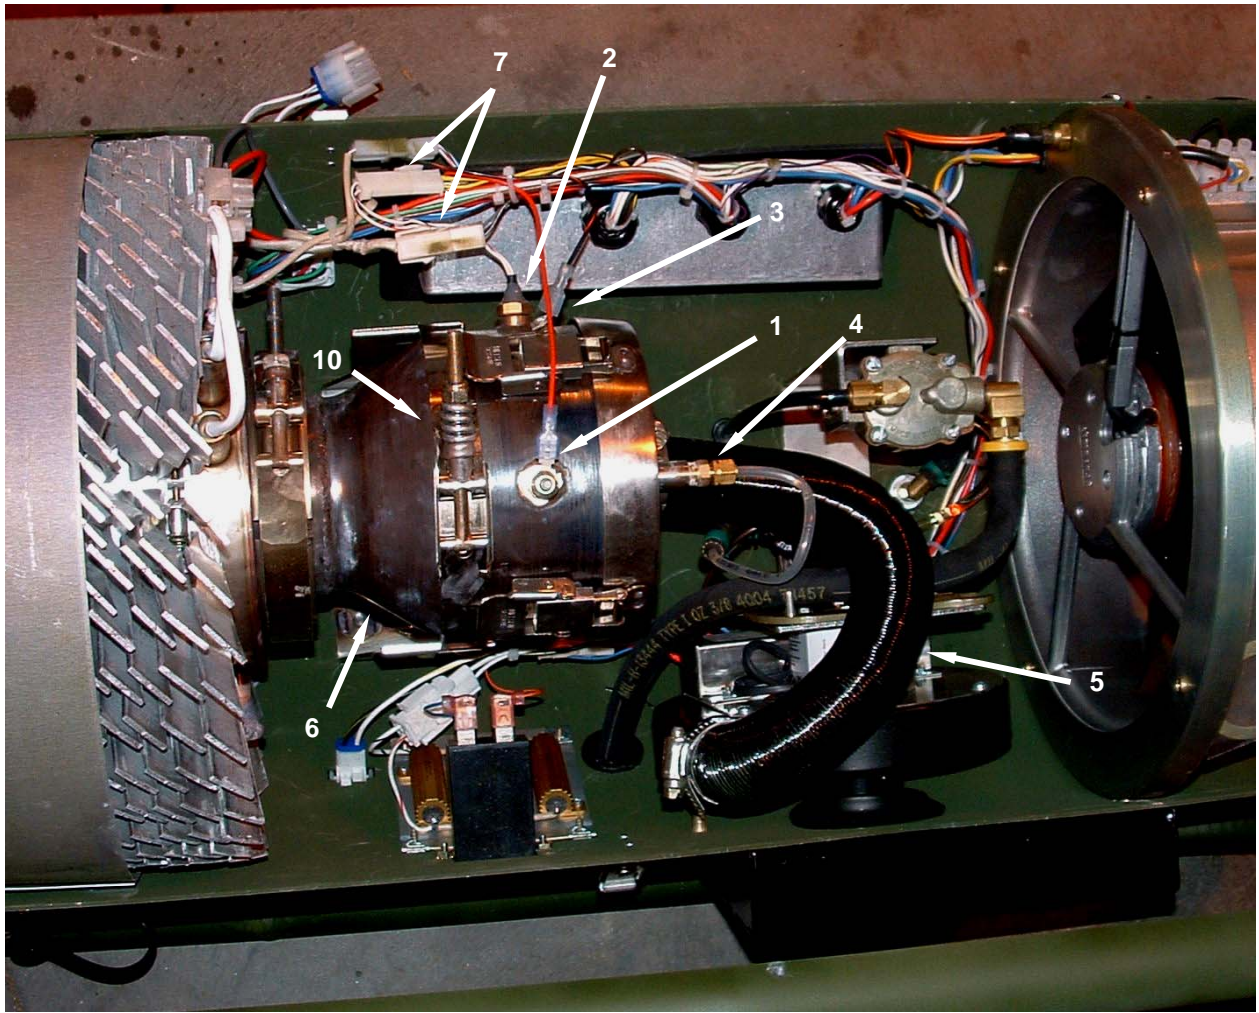

Figure 5. Replace Fin Temperature Sensor – Disassembly.
3. Tag and disconnect the glow plug (**Figure 5, Item 1**), flame sensor (**Figure 5, Item 2**), ground wire (**Figure 5, Item 3**), fuel line (**Figure 5, Item 4**), and combustion air blower duct (**Figure 5, Item 5**) from the burner assembly (**Figure 5, Item 6**).
4. Tag and disconnect the two TEG electrical connectors (**Figure 5, Items 7**).
5. Tag and disconnect the two wires (**Figure 5, Item 8**) going into the modular connector (**Figure 5, Item 9**) on the side of the TEG by loosening the two bottom screws. Do not loosen the top screws for the wires that enter the interior of the TEG.
6. Loosen the clamp (**Figure 5, Item 10**) retaining the burner assembly (**Figure 5, Item 6**) and lift the assembled burner, heat exchanger and TEG from the heater. Place on an appropriate work surface. Take care not to bend any of the fins on the TEG.